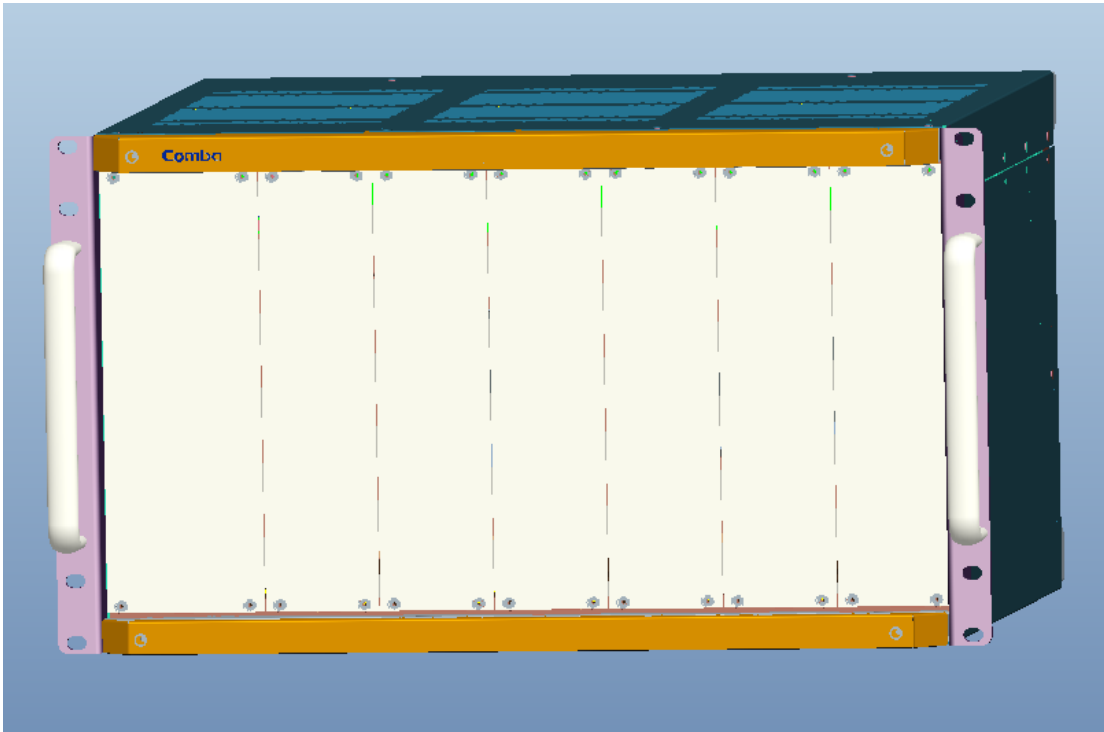
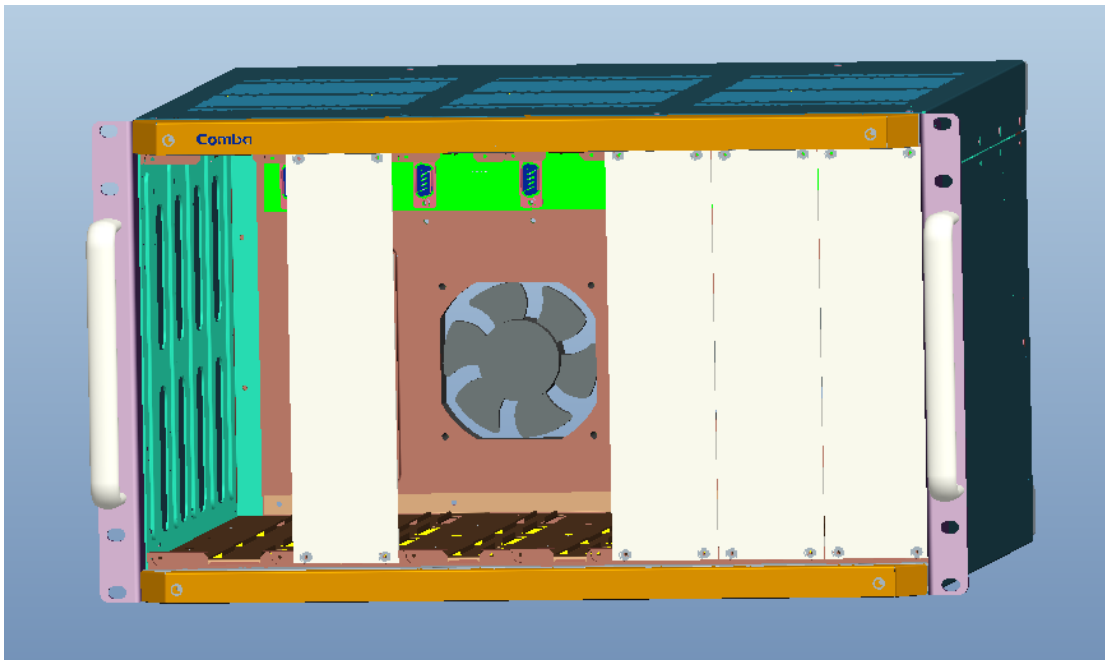

Figure 5: mBDA Rack
Figure 6: Remove Cover Plates
Step1: The rack with cover plates is shown as Figure 5. Please remove the cover plates, before installing related modules. Show as Figure 6. PMU must be installed at the left slot; RF Units are slot independent, and can be installed to other six slots.